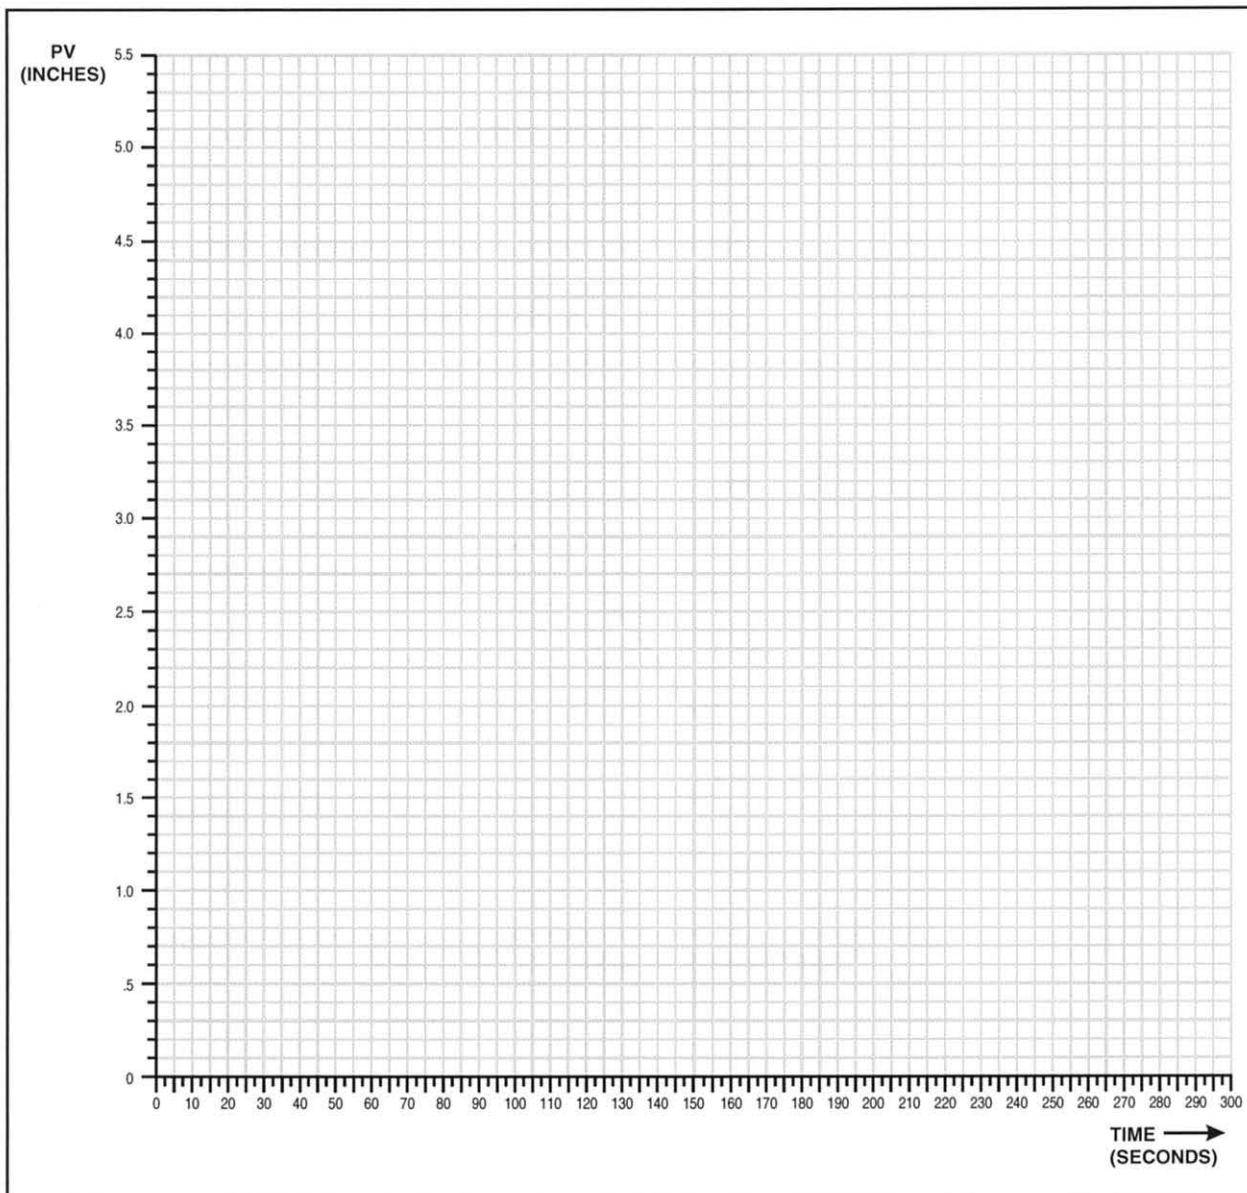

Figure 91. Graph of PV vs. Time
- A. Create a graph of PV vs. time, similar to figure 91, on a piece of graph paper.